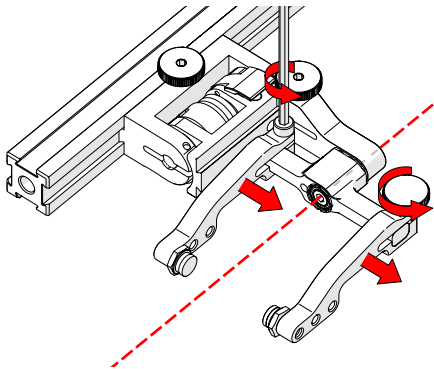

Fig. 58 - Adjust probe holder arms
5. Loosen the probe holder arm adjustment knob (Fig. 58) and remove the outer probe holder arm from yoke.
6. Adjust the inner probe holder arm as required to best centre the probe on the yoke's pivot axis (Fig. 58).
TIP: The probe holder yoke can accommodate many different probe and wedge sizes of varying widths. When scanning, it is best to centre the wedge with the yoke's pivot axis to reduce wedge tipping. Position the inner probe holder arm accordingly with the centre of the yoke (Fig. 58).